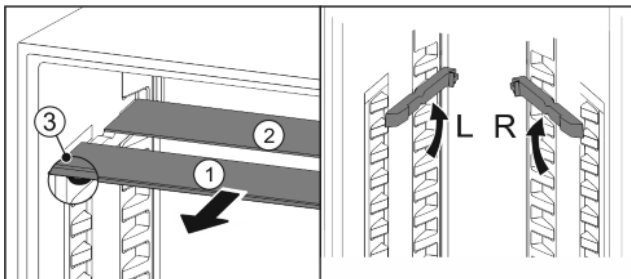

Fig. 17
- ▶ Pull the glass panels out Fig. 17 (1) from the front, one at a time.
- ▷ Glass panel Fig. 17 (1) with pull-out stoppers is at the front.
- ▷ Stoppers are pointing down Fig. 17 (3).